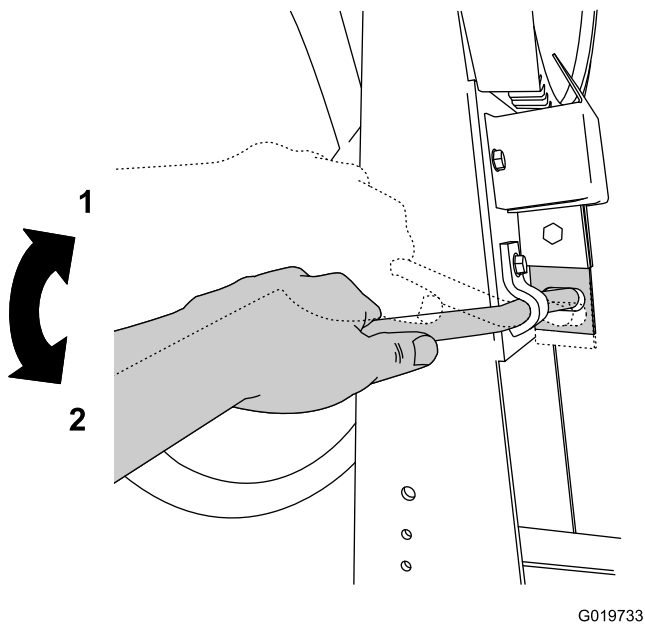

Figure 11
3. Lock the drum into position by pushing down on the drum-tilt brake handle (Figure 11).